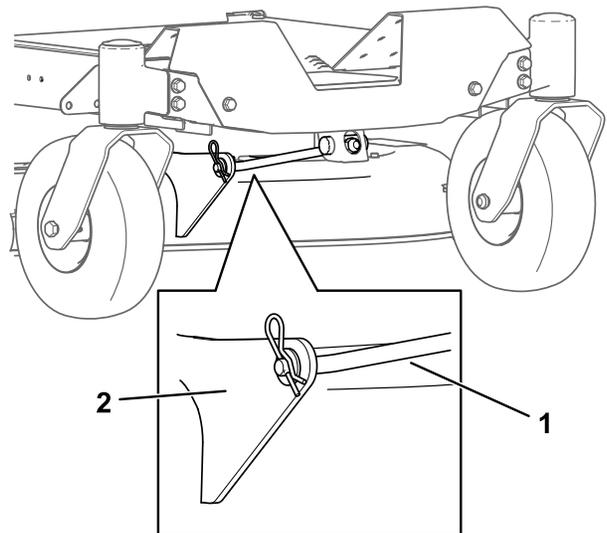

Figure 74
5. Remove the hairpin cotter from the front support rod, and remove the rod from the deck bracket (Figure 74).
8. Attach the front support rod to the mower deck with the clevis pin and hairpin cotter (Figure 74).